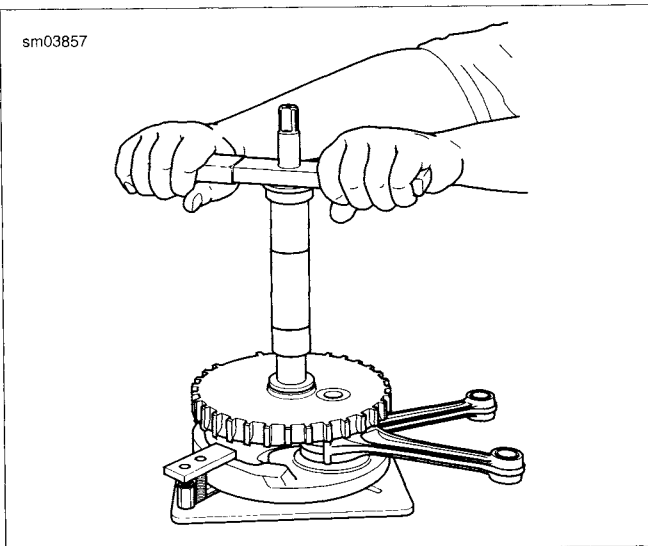

Figure 3-155. Press Inner Race onto Sprocket Shaft: Operation
5. See Figure 3-155. Rotate handle of tool in a clockwise direction until bearing inner race makes firm contact with thrust washer. Verify that thrust washer cannot be rotated by hand.